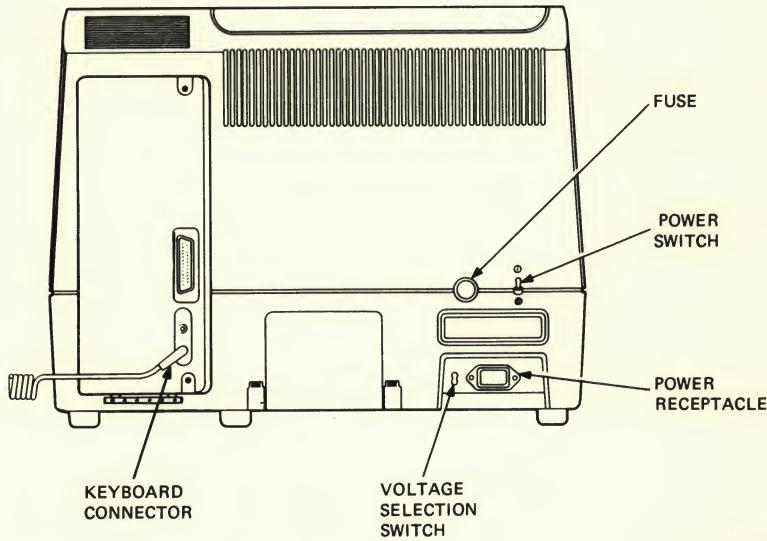

Figure 8-1 Monitor Controls
1. Turn the power switch to the off (0) position (Figure 8-1).